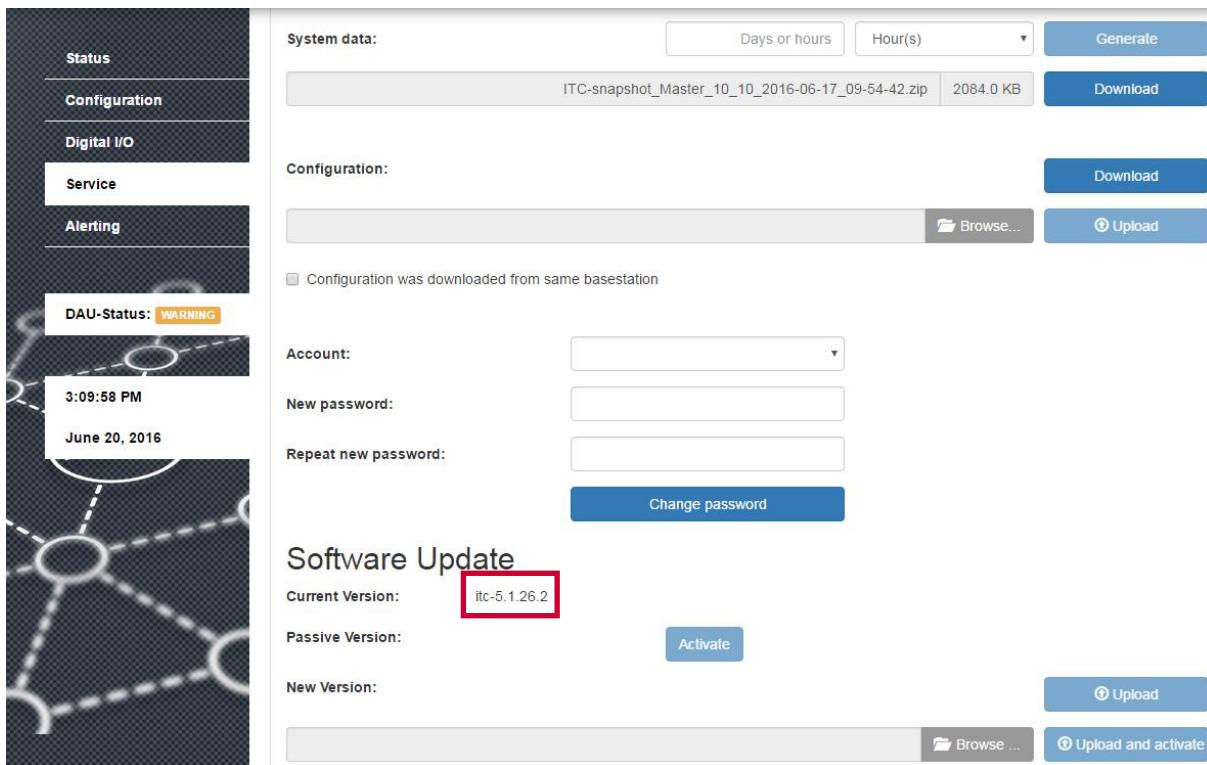

Figure 43: Checking the kernel version
**Information:** Using the current controller type requires kernel version 5.1.25 or higher. If the kernel version is lower, a flash card with new software must be ordered from Swissphone and installed. The kernel version can be checked in the service web interface under Service > Software Update > Current Version (see Figure 43).